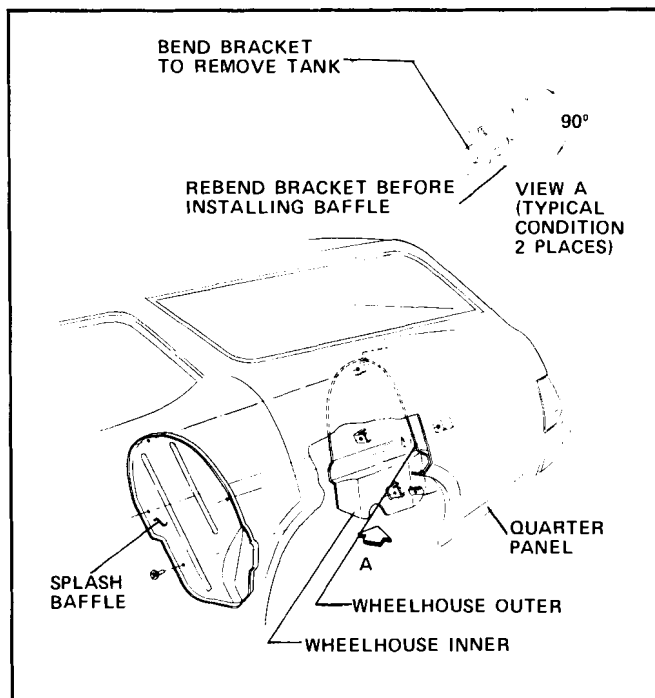

Fig. 8-31 Installation of Fuel Tank Wheel Opening Splash Baffle (Station Wagon)
6. Remove screws retaining wheel opening splash baffle under left rear wheel well (Fig. 8-31).